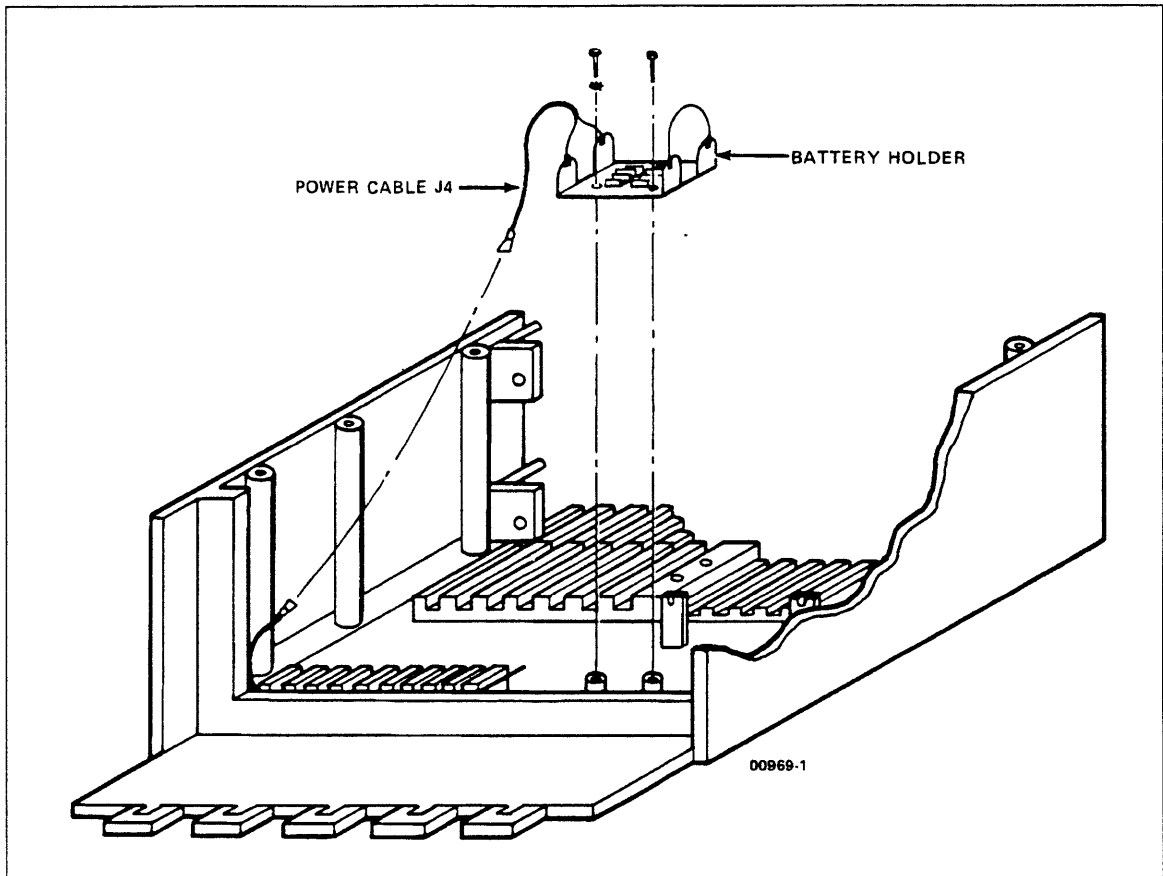

Figure 9-16. Battery Holder
3. Remove batteries from holder (figure 9-16).
4. Remove battery power cable (be careful, pins are fragile) from MPB connector J4 pins 1 through 4 (figure 9-16). Cable is keyed for easy reassembly.
5. Remove two screws that secure holder to DI base (figure 9-16).